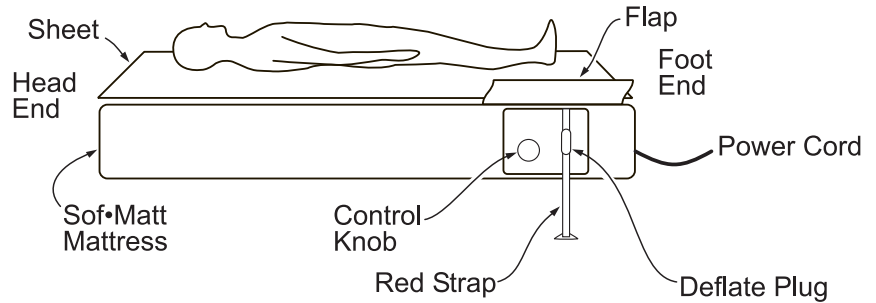

Figure 1—Sof•Matt Mattress System
Gaymar Sof•Matt Low Air Loss Mattress Systems are designed to aid in the prevention and treatment of pressure ulcers. The Sof•Matt Low Air Loss Mattress System (fig. 1) has an internal air pump which maintains adequate pressure in its upper and lower cells.
1. Place the Sof•Matt Mattress on the bed frame with the *FOOT END* markings at the proper end of the bed, facing up (fig. 1, p. 3).